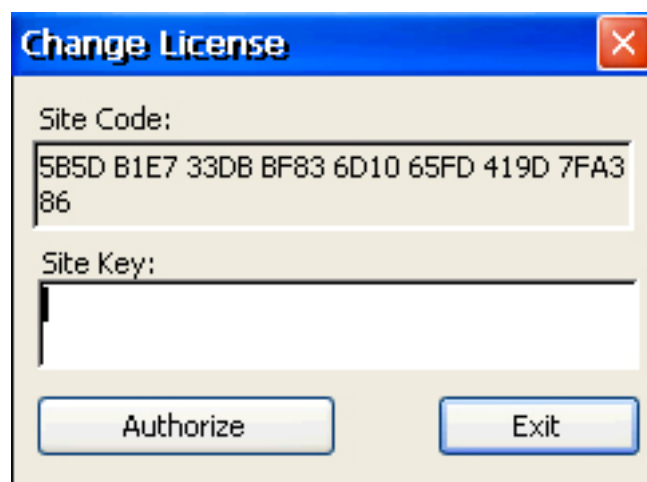

Figure 5.2.3
1. Open the *Change License* dialog (see Figure 5.2.3).